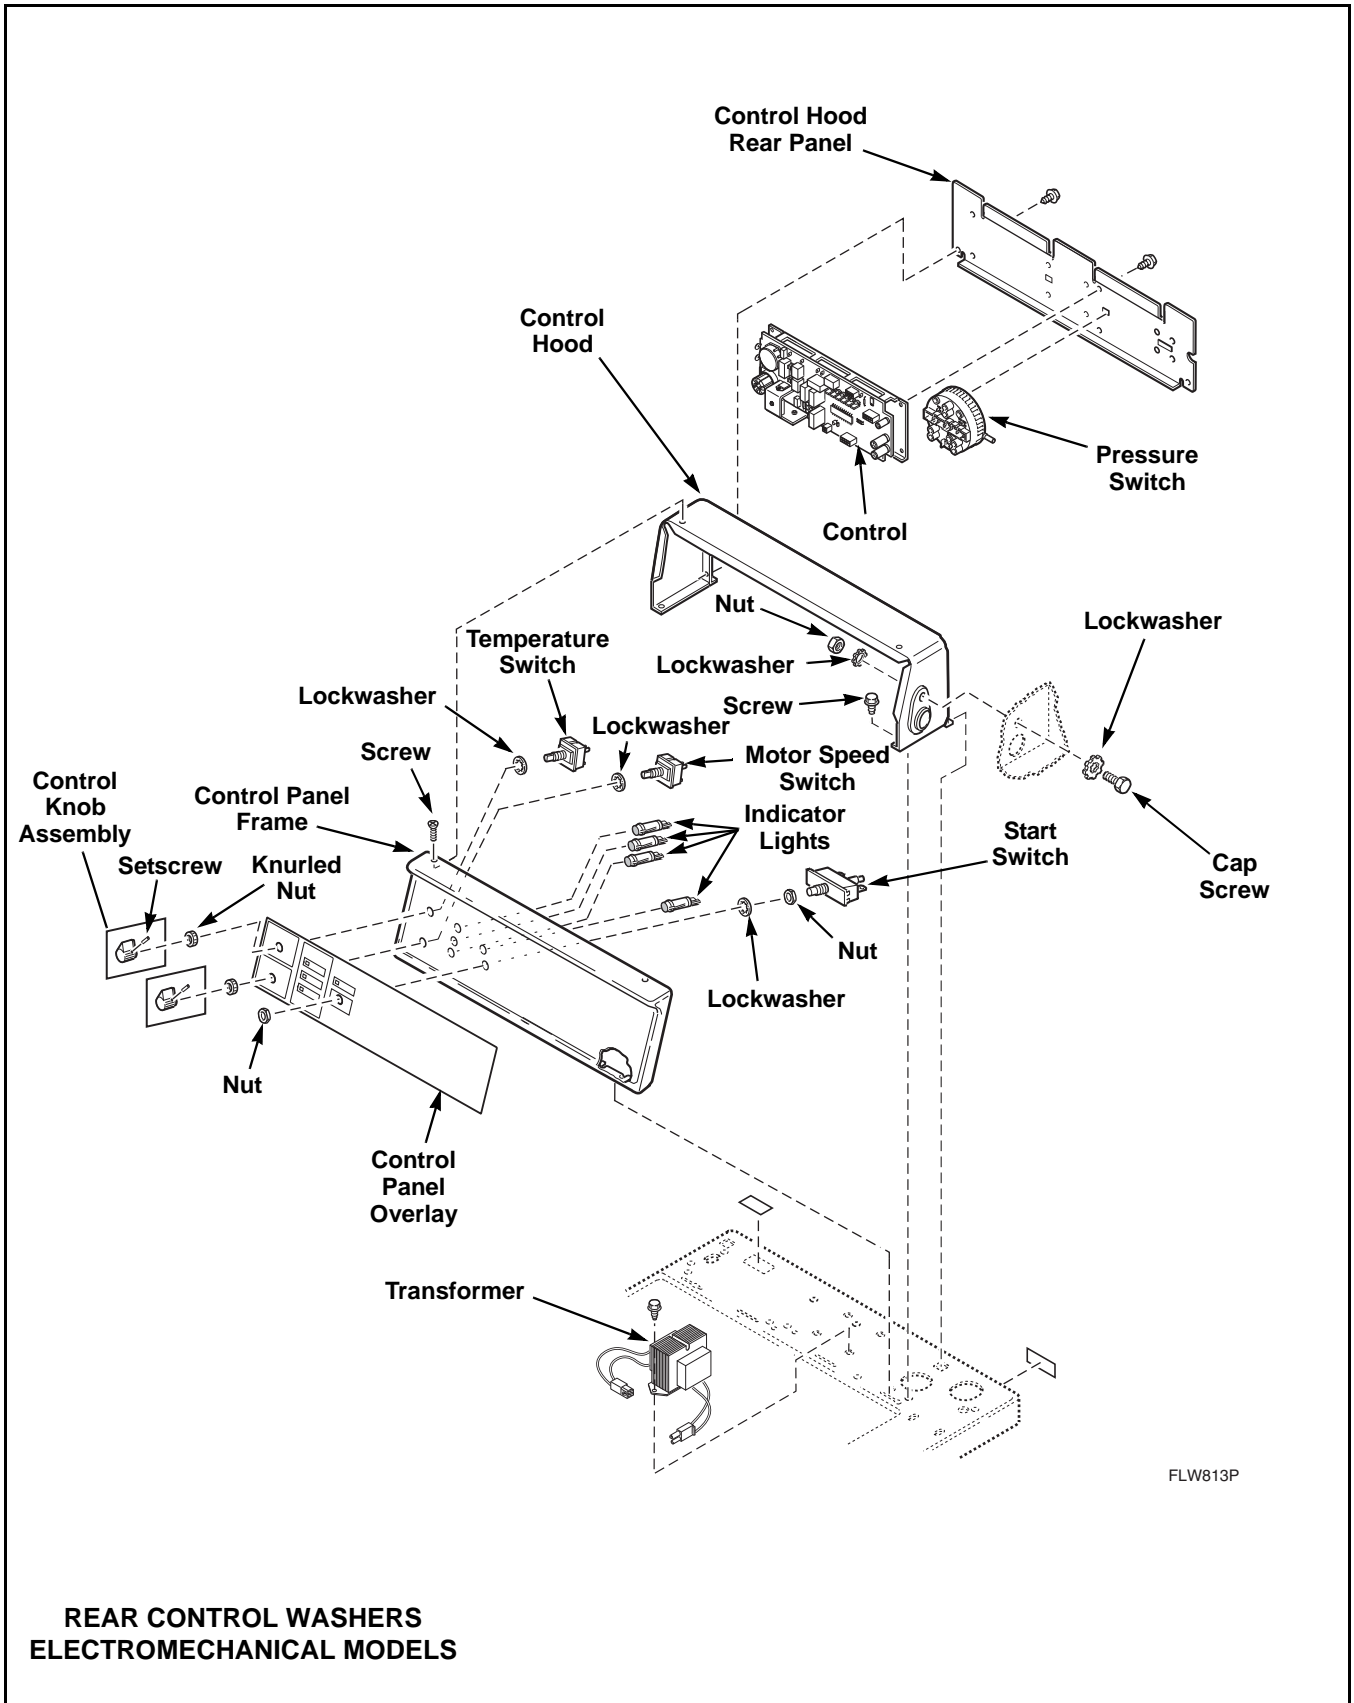

Figure 16
- c. Loosen setscrews holding switch knobs to temperature and motor switch shafts and pull knobs off switch shafts. Refer to *Figure 16*.
- d. Remove nuts holding temperature and motor switches to control panel and remove switches. Refer to *Figure 16*.
- e. Remove nut holding push-to-start switch to control panel and remove switch. Refer to *Figure 16*.
- f. Squeeze locking tabs together holding indicator light(s) to control panel and pull light out rear of control panel. Refer to *Figure 16*.
Refer to *Figure 16*)